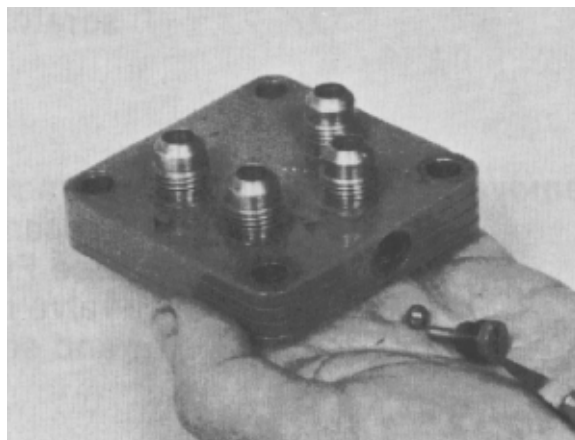

Figure 48
5. Remove the loosened plug and o-ring assembly from the port cover. Be ready to catch the steel check ball as it falls from its cavity (Fig. 48). Discard the o-ring.